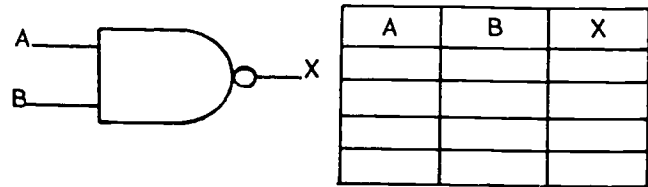

Figure 1-36. Figure for objective 002, exercise 6.
6. Construct the truth table for the logic symbol shown in figure 1-36.